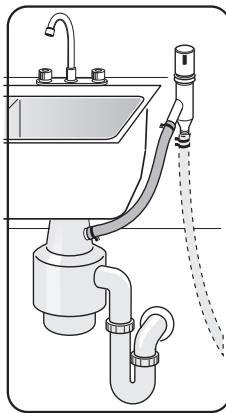

Figure 23
4. To a disposer dishwasher drain connection through an air gap, as shown on Figure 23.